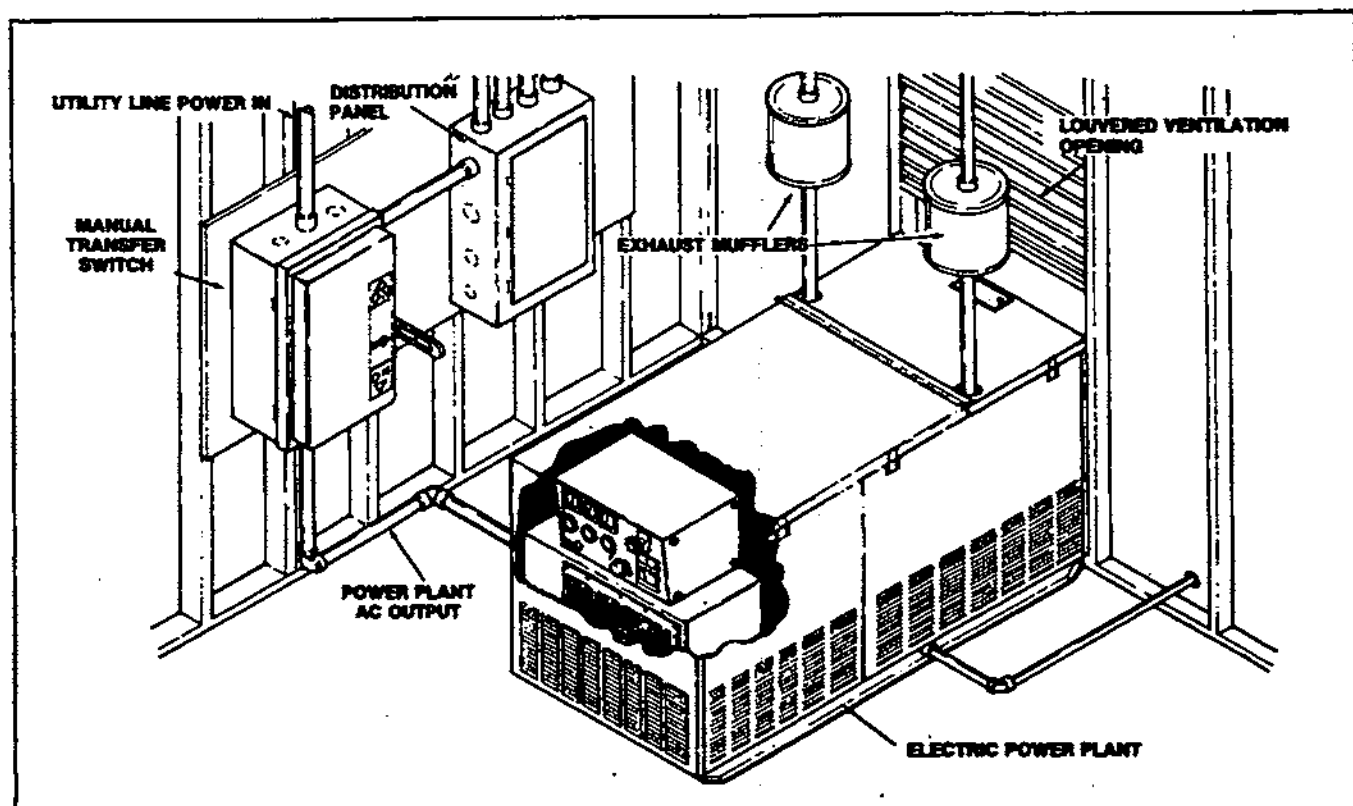

Figure 2.1-A. A TYPICAL Manually Operated Standby Power System
2.1.3- TYPICAL MANUALLY OPERATED STANDBY ELECTRIC POWER SYSTEM (Figure 2.1-A)
The standby generator set, along with its related equipment, may be installed outdoors, outdoors on the roof of a structure, inside the room of a structure, or inside a detached structure. Figure 2.1-A illustrates a TYPICAL outdoor installation of an Option "A" generator set. In the event of a failure of the NORMAL (Utility) electric power source, Option "A" units must be cranked and started manually (electrically) and loads must be transferred to the EMERGENCY (Generator) power source manually. When the NORMAL power is restored above an acceptable level, the Transfer Switch must again be actuated manually and the generator must be shut down manually.
2.1.4- TYPICAL AUTOMATICALLY CONTROLLED STANDBY POWER SYSTEM (Figure 2.1-B)
Option "B" and "C" generator sets, when installed in conjunction with an automatic controller or a transfer switch with integral controller, will crank and start automatically, as well as shut down automatically. Figure 2.1-B shows a TYPICAL installation in conjunction with a "GTS" style automatic transfer switch.